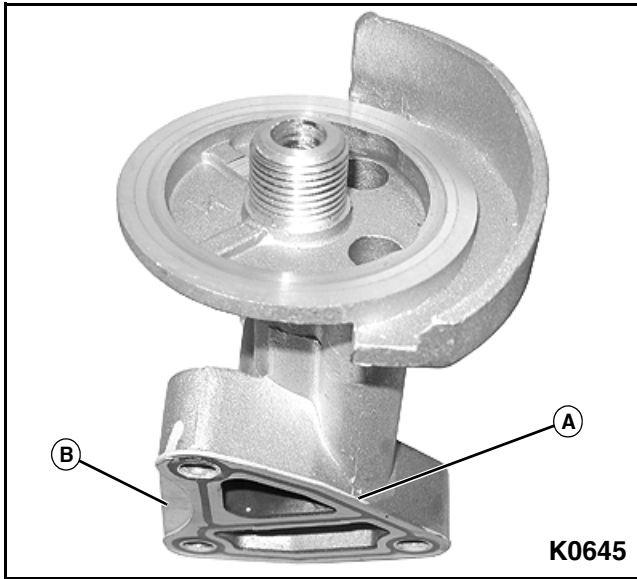

Figure 3-115
1. Install new gasket (A) on oil filter base (B). See **Figure 3-115**.